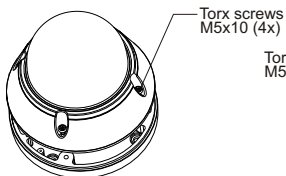

Figure 1
1. Loosen the four torx screws located midway up the front of the housing leave the screws intact in the front portion. **(Fig. 1)**